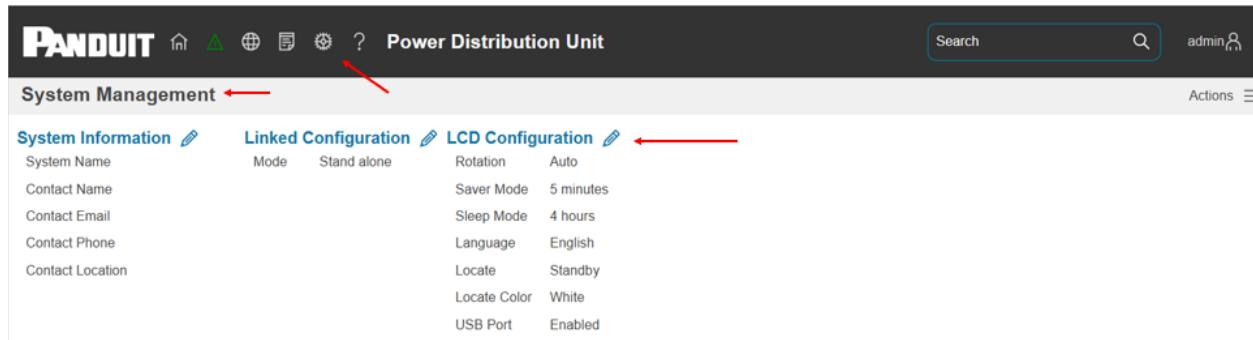

Figure 1: LCD Configuration
1. Connect an Ethernet cable to the Network port on the NMC (see Figure 1).
<macaddress>.local”. For example, the mDNS address for Figure 1 corresponds to “pdu-000f9c03000b.local” The address is a unique address based on the NMC MAC address.